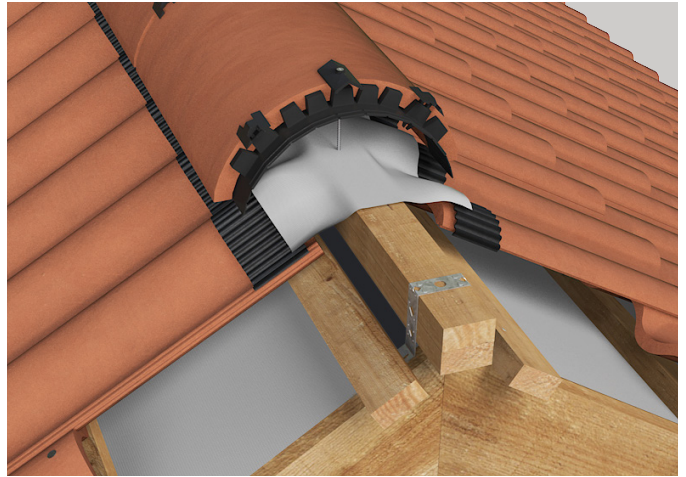

Fig 4. Fix ridge tile – 3D View.
6. Fix Ridge tiles using KYTUN Ridge Screws and Ridge Clamping Plates. (Fig.4)